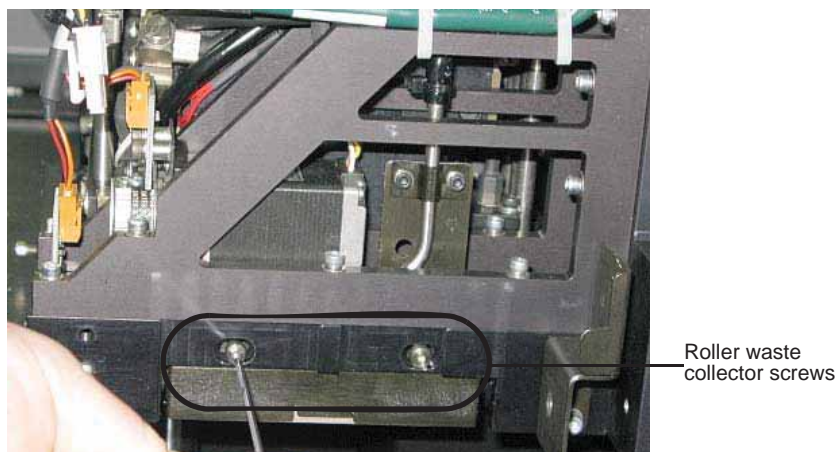

Figure 6-32: Removing the roller waste collector covering
1. Return the roller waste collector to the print block and screw on the covering (see figure 6-32 on page 28).